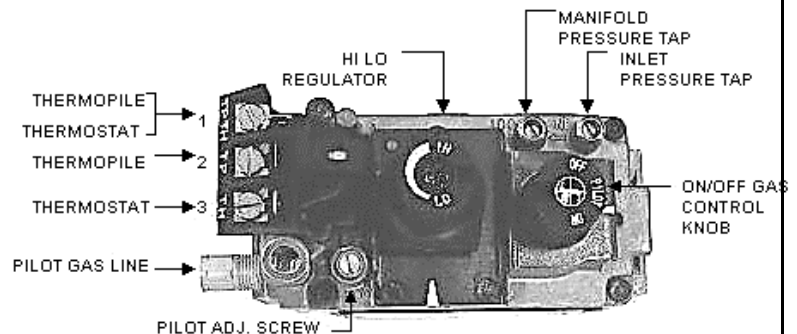

Figure 5-1 Gas Valve
- 10 To reduce heat output, turn Hi/Lo Knob counterclockwise to desired temperature (see Figure 5-1 Gas Valve). Blower speed can also be turned down to reduce heat distribution.